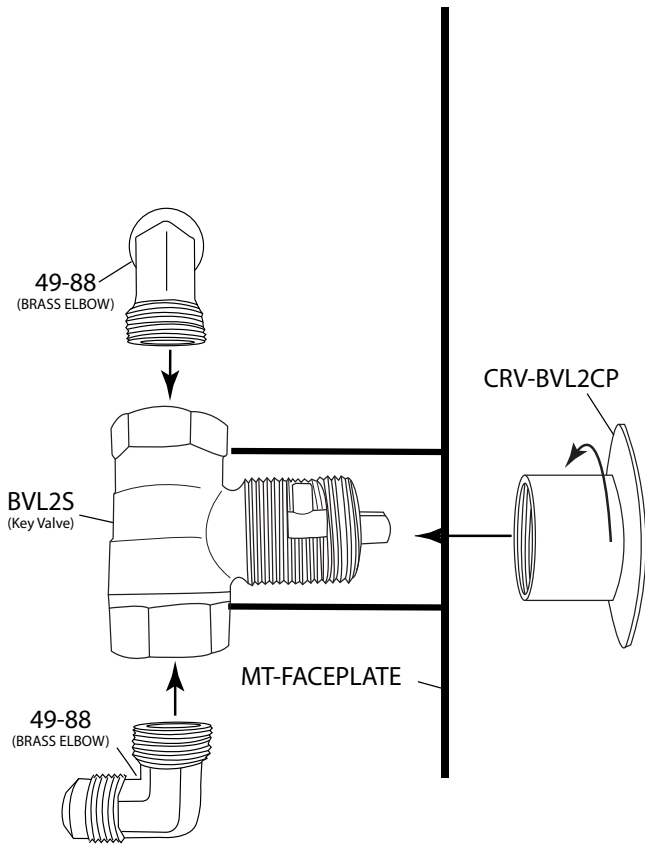

Fig. 7 Assembled the mounting plate.
The figure drawing below shows the mounting plate parts and pieces used for the assembly. This is pre-assembled and ready to install. See Fig. 7. The Key Valve Assembly consists of (1) key valve and flange, (2) 90° elbows and (1) stainless steel face plate.